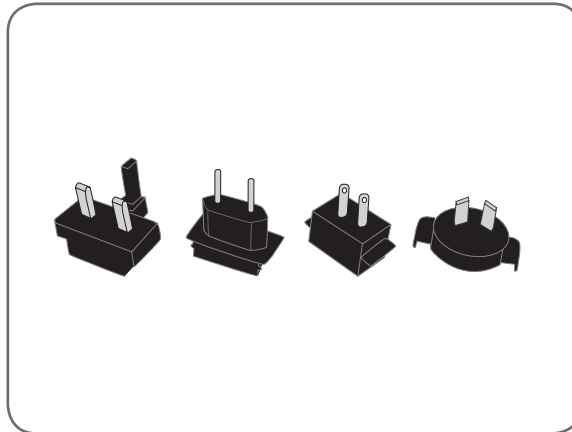

Figure 8-1: System charger interchangeable blades.
1. Select the interchangeable blade that matches your power outlet. Four blades are provided for use in the US, the European Union, Australia, and the United Kingdom. See Figure 8-1.